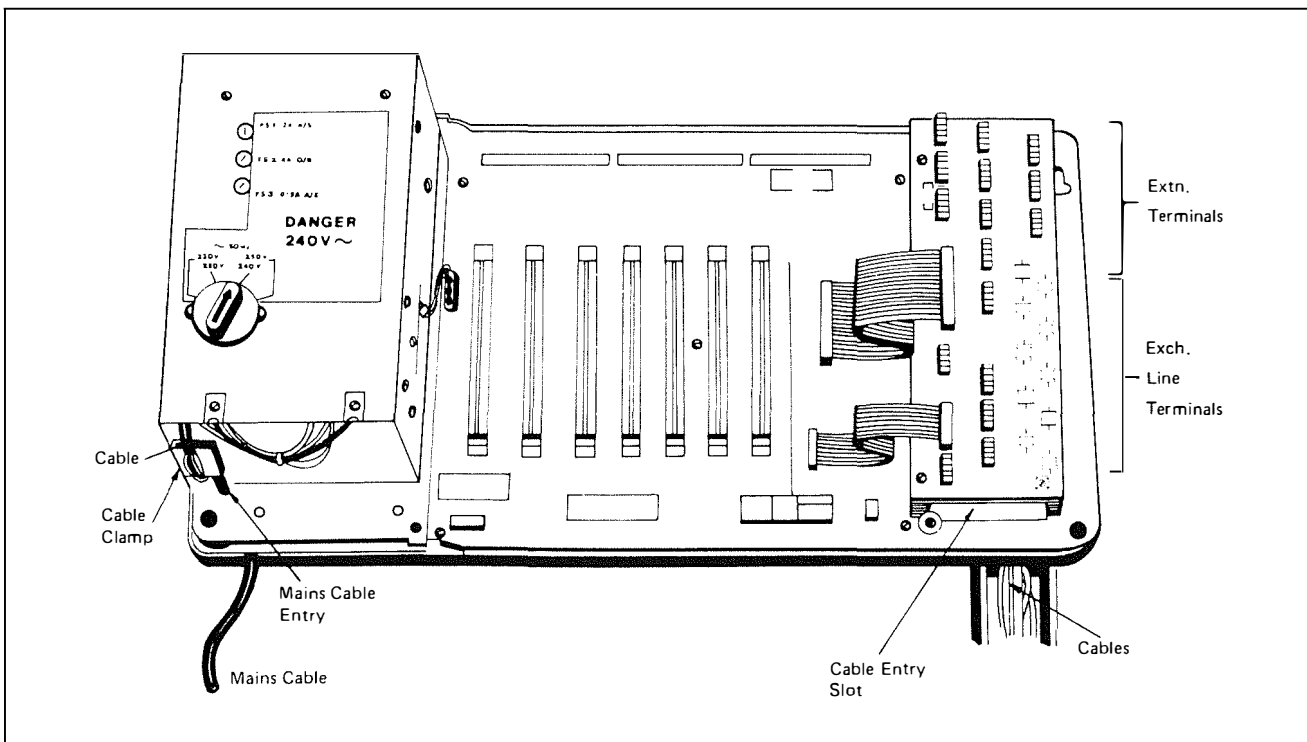

Fig 2.3 PSU IN POSITION ON REAR MOUNTING ASSEMBLY
- Connect the mains cable to the PSU. A mains cable, not more than 3m long must be obtained locally, and terminated to the terminal block which with its associated cable clamp is mounted in the bottom of the PSU. See Fig 2.3.